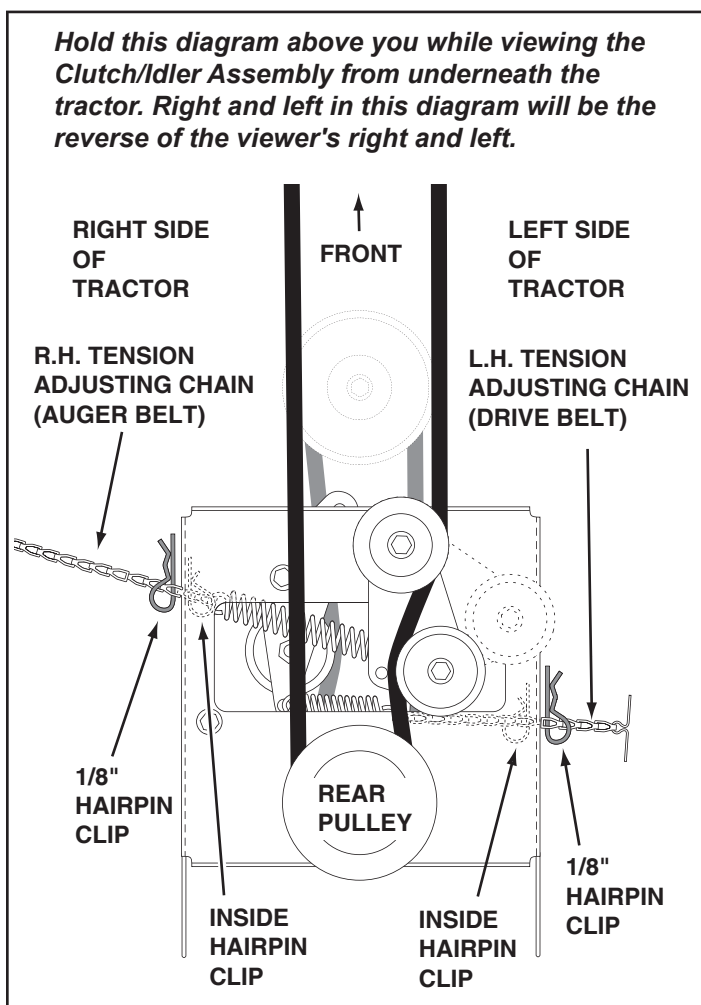

FIGURE 23 VIEWED FROM UNDERNEATH
- Place the **auger** belt around the bottom rear pulley on the clutch/idler assembly and between the two pulleys on the lower idler arm. Keep the flat idler pulley to the outside of the belt. See figure 23.
- Pull the flat idler pulley against the **auger** belt using the R.H. tension adjusting chain. For correct belt tension, pull the chain as far as the inside hairpin clip will allow and then reinstall the **outside** 1/8" hairpin clip into the chain. See figure 23.
- Pull the upper flat idler pulley against the **drive** belt using the L.H. tension adjusting chain. For correct belt tension, pull the chain as far as the inside hairpin clip will allow and then reinstall the **outside** 1/8" hairpin clip into the chain. See figure 23.